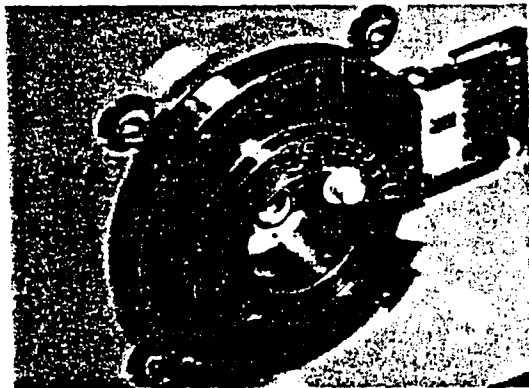

Figure 5-19. Fixed Reel Collet Installation
8. Press the tool and collet on the motor shaft until the feet on the tool contact the exposed deck plate near the motor mounting screws. Refer to Figure 5-19.